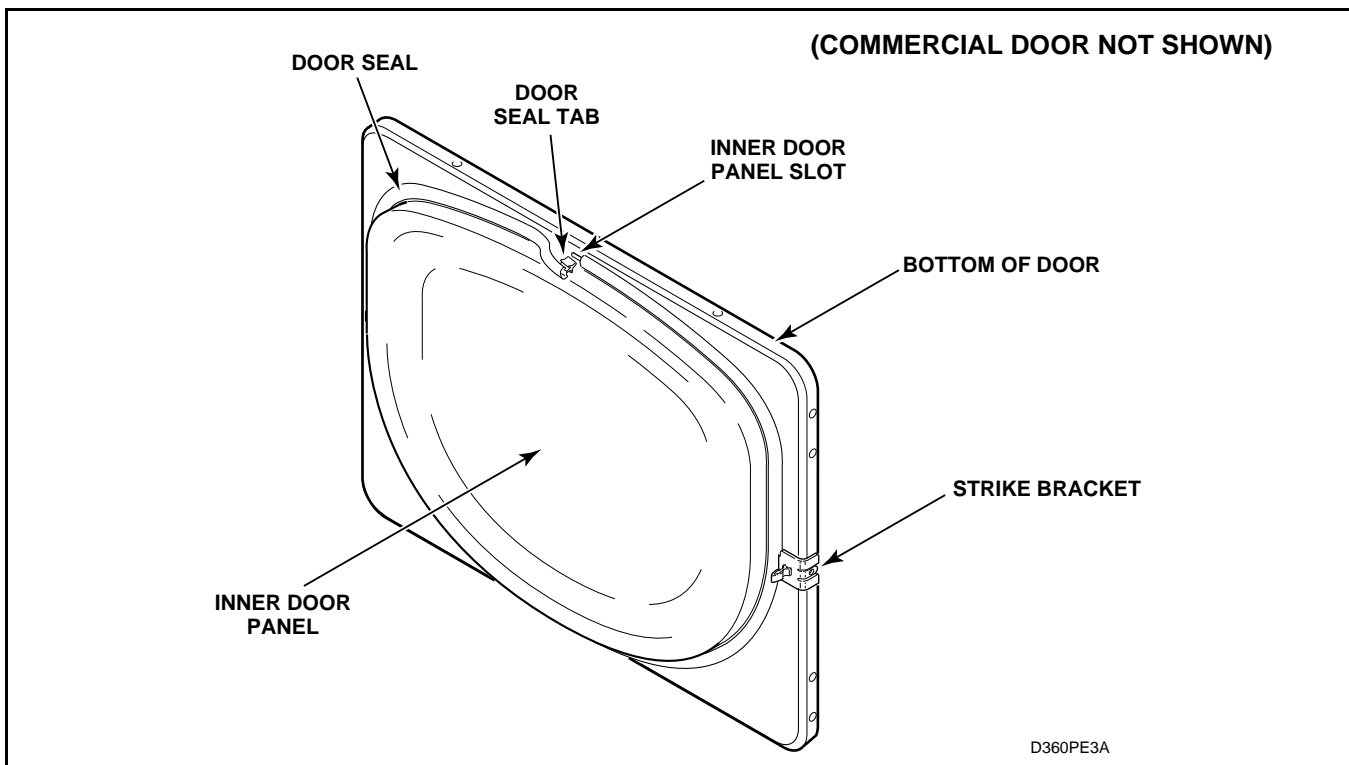

Figure 11
(Figure 11)
- Grasp either end of door seal at bottom of door and remove seal from tabs on inner door panel by gently pulling on the seal. See Figure 11.
**NOTE:** When replacing seal, be sure seal is not stretched or distorted. The tab in the seal should be installed in each slot of the inner door panel, shown in Figure 11. The split in the seal must be at the bottom of the door. Make sure that each tab of the seal is fully engaged into the slot.